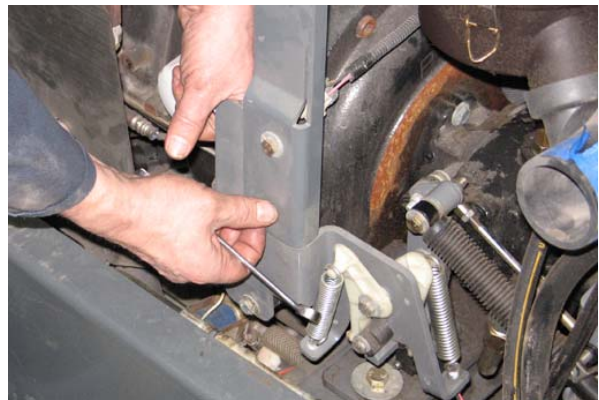

FIG. 20
28. Reinstall the air cleaner assembly/air cleaner assembly bracket onto the machine. (Fig. 20)